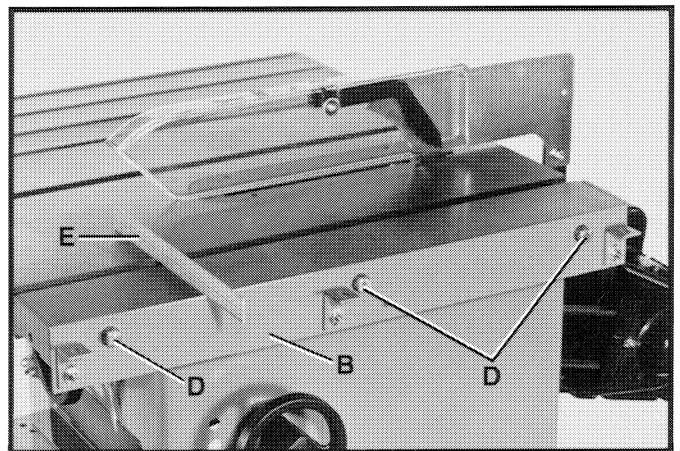

Fig. 30
2. Assemble table adapter plate (B) Fig. 30, to the right side of saw table using three 7/16-20 x 3/4 inch-long hex head screws (D) and flat washers. **NOTE:** Before tightening screws (D), place a straight edge (E) on the saw table and make certain the top of adapter plate (B) is level with or slightly below the surface of the saw table.